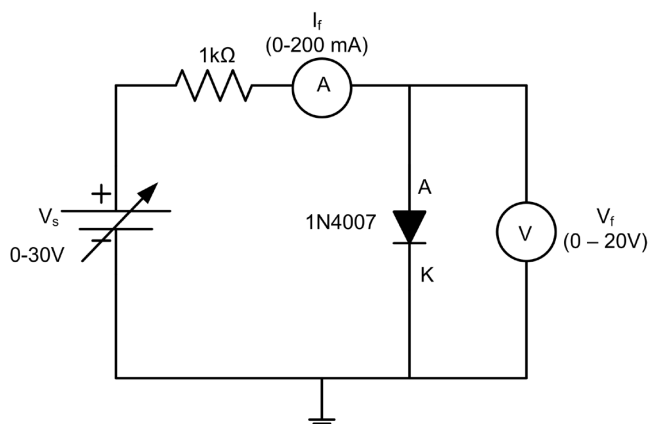

Fig. P15.1: Circuit diagram of diode in forward bias
1. Connect the electrical circuit as in Fig. P15.1.